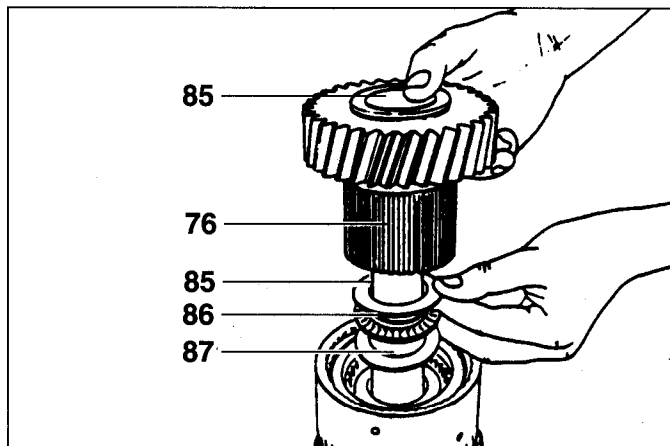

Fig. 27
- 7) Install on second spacer (87), the thrust needle bearings (86) and thrust washer (85) install clutch hub pinion (76) and make sure tat all inner clutch plates (71) are engaged on spline pinion end. Fit on clutch hub pinion (76) thrust washer (85) and needle bearing (86) (Fig. 27). Install the thrust washer (78).
- 8) Verify with a dial gage that a 0.3 - 0.5 mm, end play between needles of bearing (86) and race (78) is
assiale a rulli (86). Montare il rasamento (78) (Fig. 27).